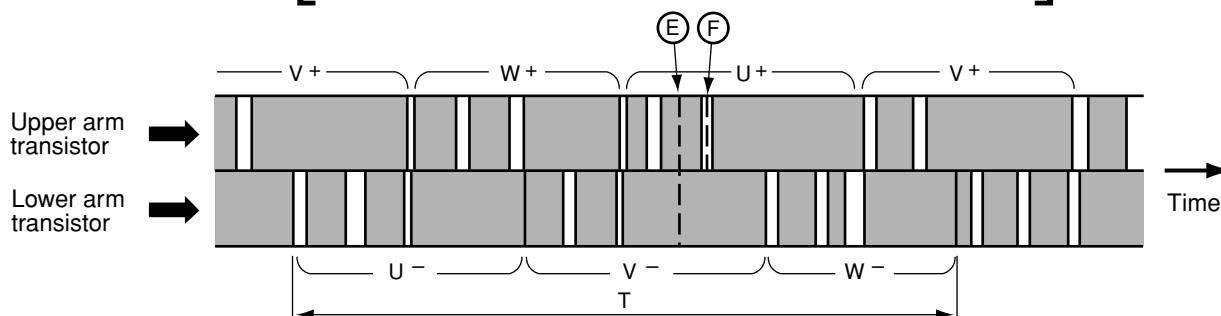

Fig. 3-2 Switching order of power module
- DC 260-360V is input to system power module and system power module switches power supply current according to rotation position of magnet rotor. The switching order is as shown in Fig. 3-2.
- Time T in Fig. 3-2 shows the switching period, and relation with rotation speed (N) of the compressor is shown by formula below;